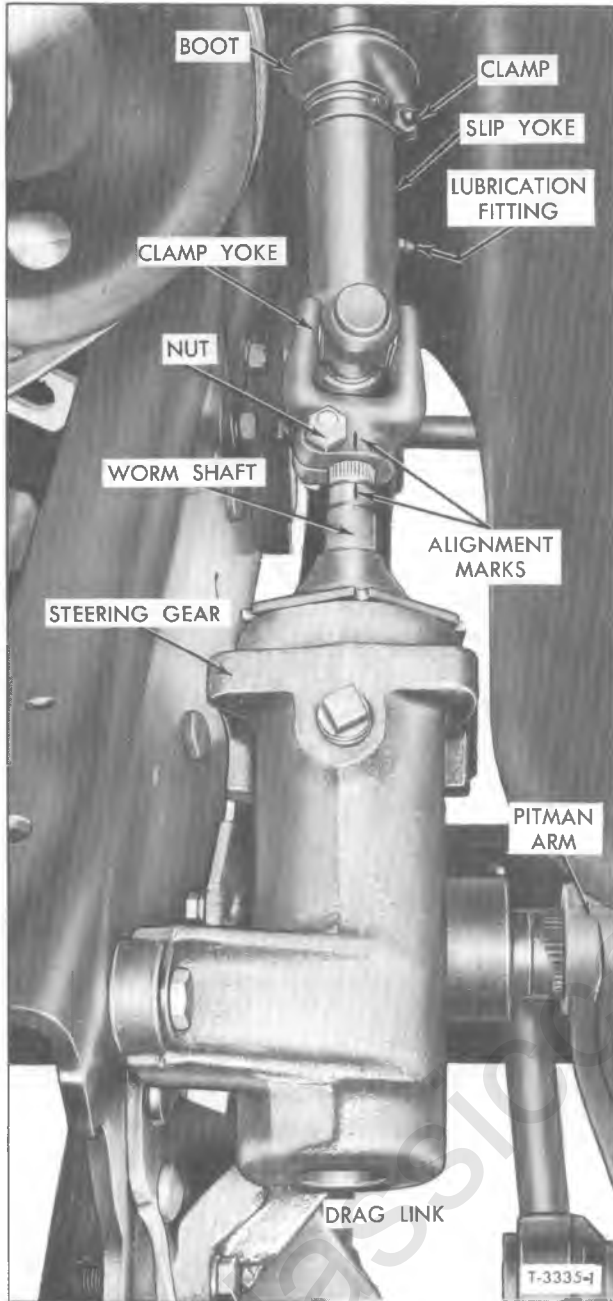
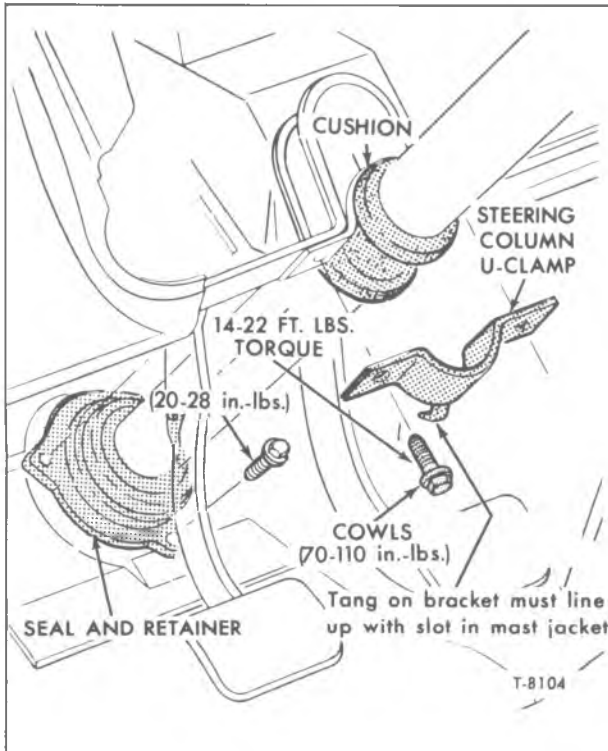

Figure 15—Steering Gear and Lower Shaft Installed
Figure 21—Steering Column Mounting (Cowl and Conventional Cab) (Typical)
3. Mark clamp yoke (19, fig. 19) or coupling and steering gear worm shaft (20) to ensure installation in the same relative position (fig. 15).
6. Remove screws which attach steering column seal retainer and seal (2) to cab floor.
7. Remove bolts which attach U-clamp to under edge of dash support (fig. 21), then pull flexible coupling free of steering gear worm shaft. Remove column and shaft assembly from inside the cab.
3. Loosely, install mast jacket U-clamp at under-edge of dash support, being careful to insert tang on U-clamp into elongated slot of mast jacket (refer to fig. 21).
6. Install screws which attach steering column floor seal and retainer to floor or cowl (fig. 21).
3. Mark clamp yoke (22) and steering gear worm shaft (23) so they can be installed (fig. 15) in same relative position, loosen, and remove clamp bolt and nut.
5. Remove steering column seal (19) and retainer (20) from cab floor.
6. Remove all bolts attaching steering column clamps (7) to supports and braces. Remove steering column and shaft assembly.